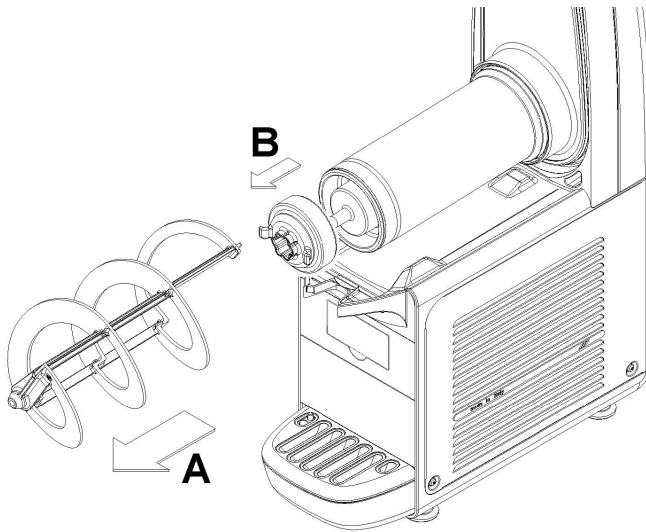

figure 10
- 3** Remove the mixer by sliding it out of the evaporator cylinder. Then remove the hexagonal joint (see figure 10).